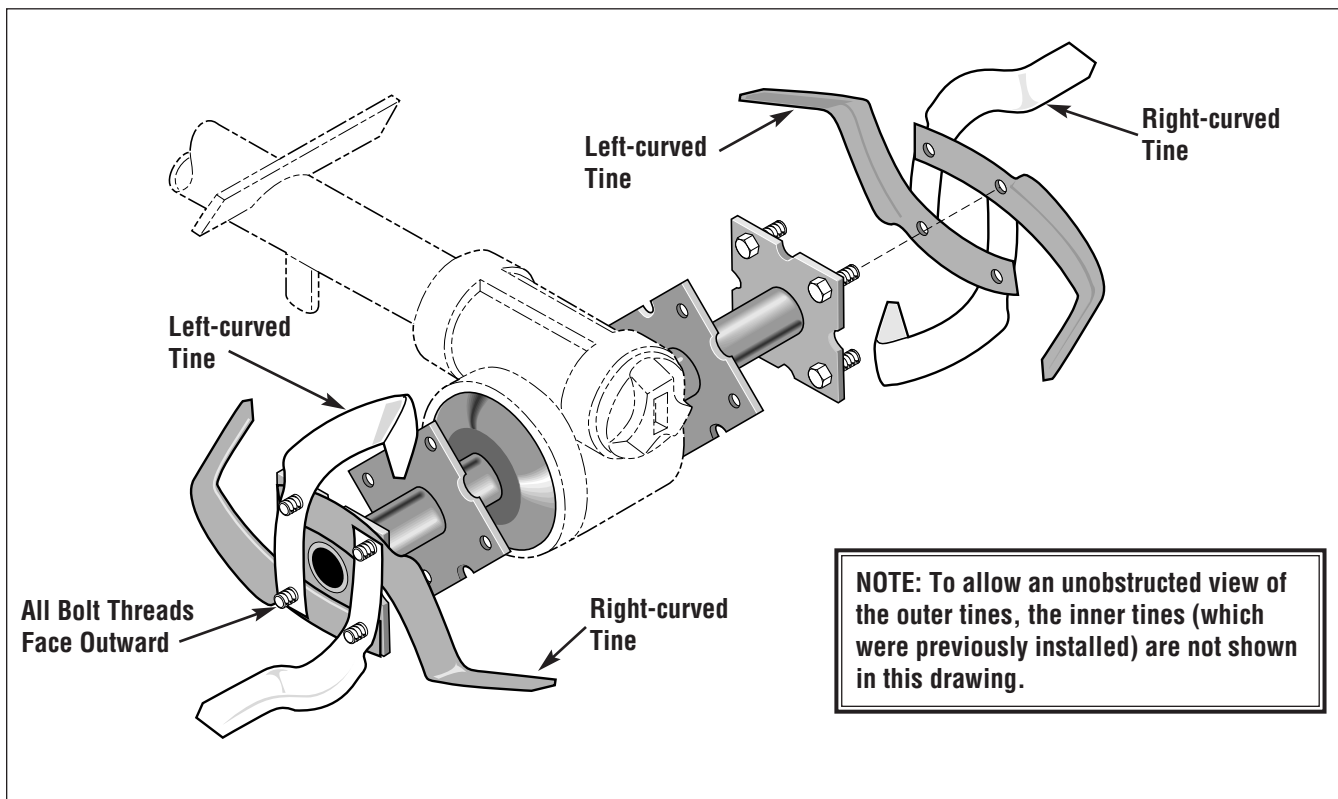

Figure 15: Installing tines on ECONO HORSE outer holders.
A. Place two **right-curved** tines (shown shaded in Figure 15) **opposite** each other on the previously installed bolts. Make sure that the tines are positioned as follows:
B. Place two **left-curved** tines (unshaded in Figure 15) **opposite** each other, overlapping the tines positioned in Step 1-A. Make sure that these tines are positioned as follows:
A. Place two **left-curved** tines (shown shaded in Figure 15) **opposite** each other on the bolts which were previously installed. Make sure that the tines are positioned as follows:
B. Place two **right-curved** tines (shown unshaded in Figure 15) **opposite** each other, overlapping the tines positioned in Step 2-A. Make sure that the tines are positioned as follows: